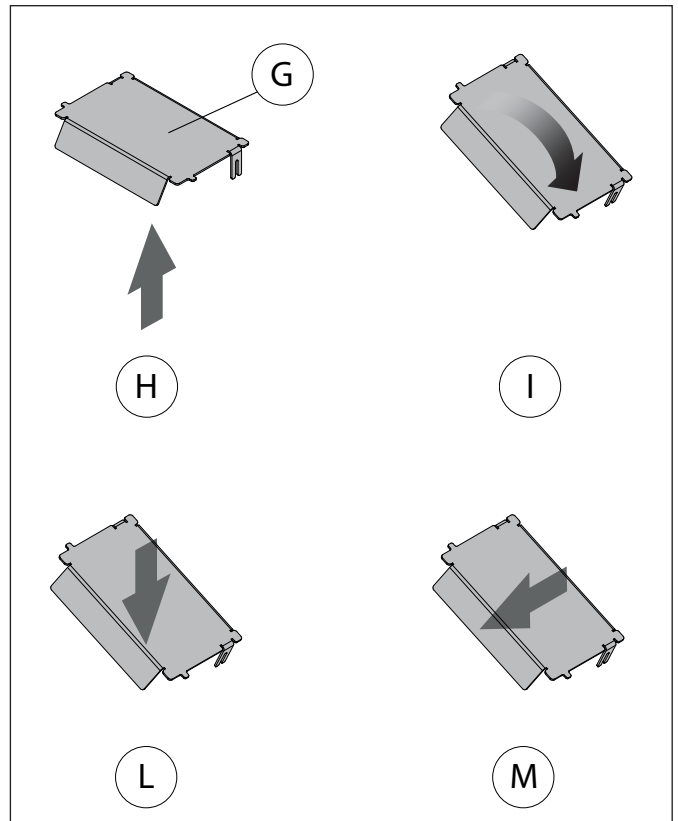

Fig. 8.2.3c
- remove the upper deflector (**G**) by lifting it slightly pulling with a hand on the lower part of the deflector itself (**H**) and with the other hand, rotate it to the right (**I**). With the deflector in this position, lower it (**L**) until it is completely removed, by passing it through the door (**M**) (**Fig. 8.2.3c**);